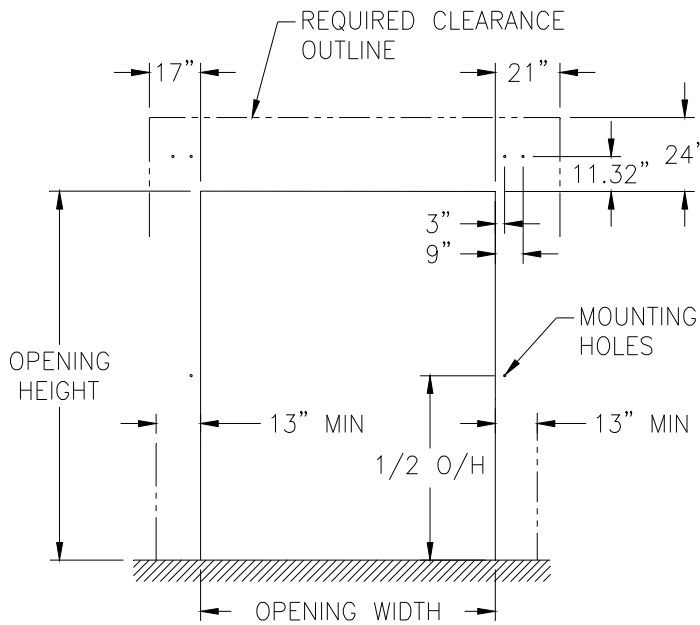

FIG. 4C
- Motor mounted on Front shown in Figures 4c and 4d.